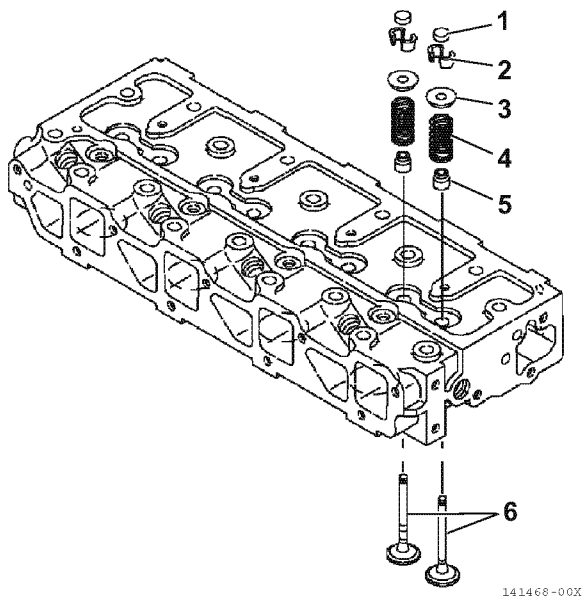

Figure 6-34
- Place all the valves (6, **Figure 6-34**) in their proper location in the cylinder head.
- Place the cylinder head on the workbench with the combustion side down to install the valve springs. Install the valve spring (4, **Figure 6-34**) and the spring retainer (5, **Figure 6-34**).
- Insert the valve keepers (2, **Figure 6-34**) and slowly release the tension on the valve spring. Install the valve cap (1, **Figure 6-34**). Repeat the steps on all the remaining valves.